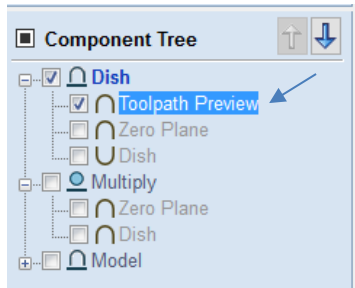
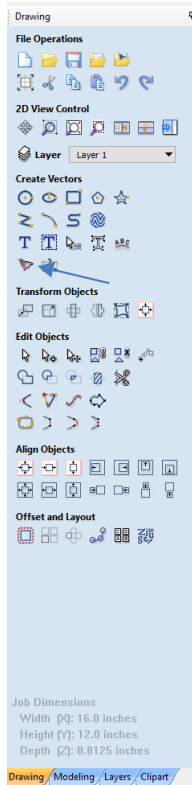

Fig. 11
Fig. 13
10. Click on the “Toolpath Preview” (turn blue) in the Component Tree (Fig. 11).
13. Go to the “Drawing Tab” lower left corner (Fig. 13).
14. Select the “Trace Bitmap” Icon (chicken) under “Create Vectors” (Fig. 13). Make sure the “Toolpath Preview” is still blue in the Modeling Tab. (Fig. 11)